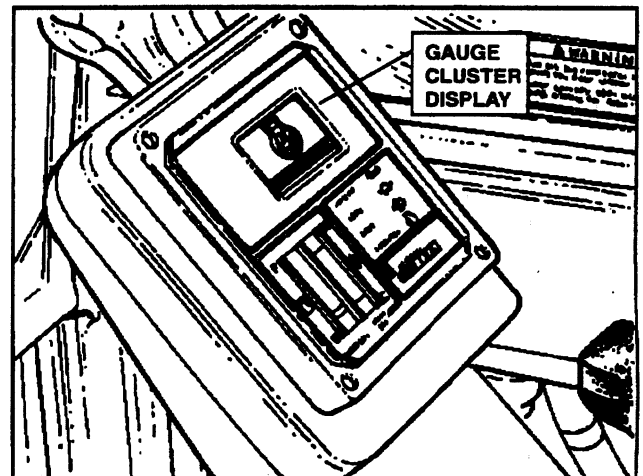

FIGURE 6.19A
18. Depress and hold the Special Adjustment Harness Switch 3 to 5 seconds until the Gauge Cluster Display Reads "CPU". Then release switch. See Figure 6.19A.